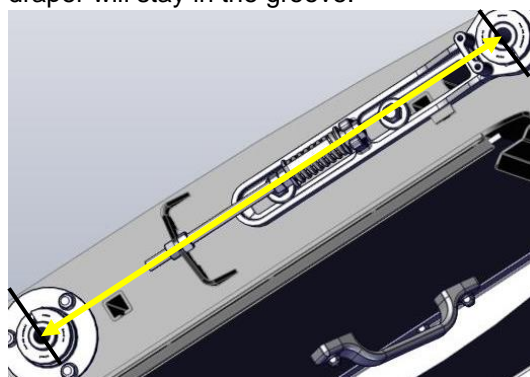

Figure 86
5. Measure the distance between the center of each roller on the center deck. Figure 86